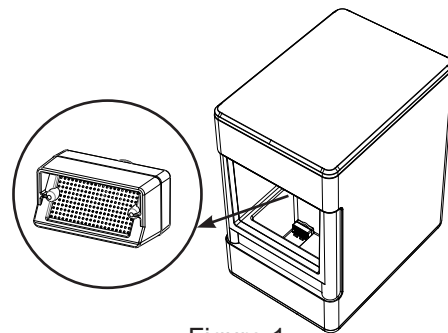

Figure 1
2. Remove water filter (if present), and replace with the reservoir's screened intake cap. See Figure 1.